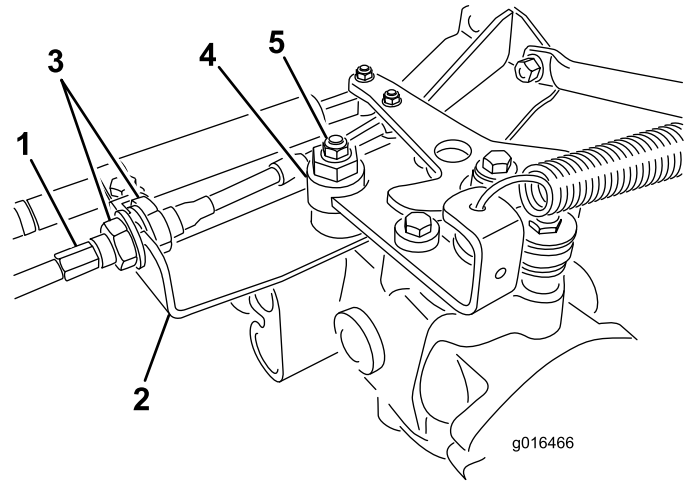

Figure 47
- A. Loosen both jam nuts securing the traction-control cable to the bulkhead on the hydrostat (Figure 47). Ensure that the jam nuts are loosened equally and sufficiently to allow adjustment.
Note: Loosen the nut securing the eccentric to the top of the hydrostat (Figure 47).
- E. When the wheel stops rotating, tighten the nut locking the eccentric and the adjustment (Figure 47).
- G. From each side of the bulkhead, tighten the locknuts evenly, securing the traction cable to the bulkhead (Figure 47). Do not twist the cable.